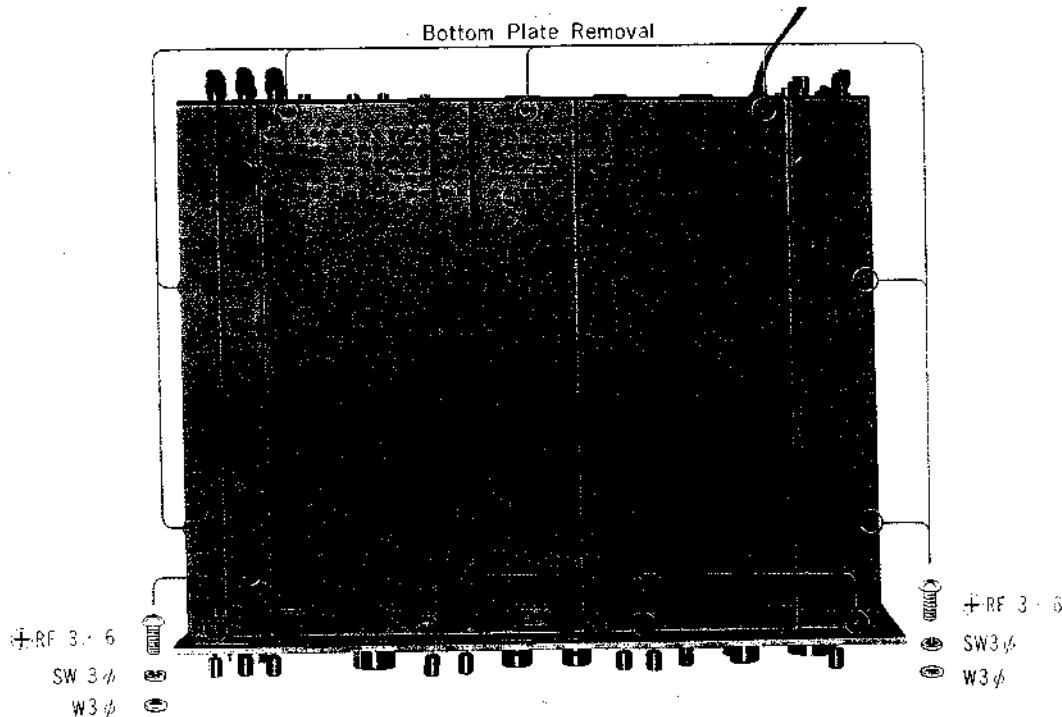

Fig. 2-1-1 Bottom Plate and Front Panel Removal
- (b) Loosen off seven Phillips-Head screws (+RF 3 ϕ × 6) at the bottom of the receiver and pull the bottom plate towards the rear of the receiver. See Fig. 2-1-1.
- (d) Turn the receiver over and loosen off four Phillips-Head screws (+RF 3φ × 6) at the front bottom edge of the chassis. See Fig. 2-1-1. This frees the front panel.